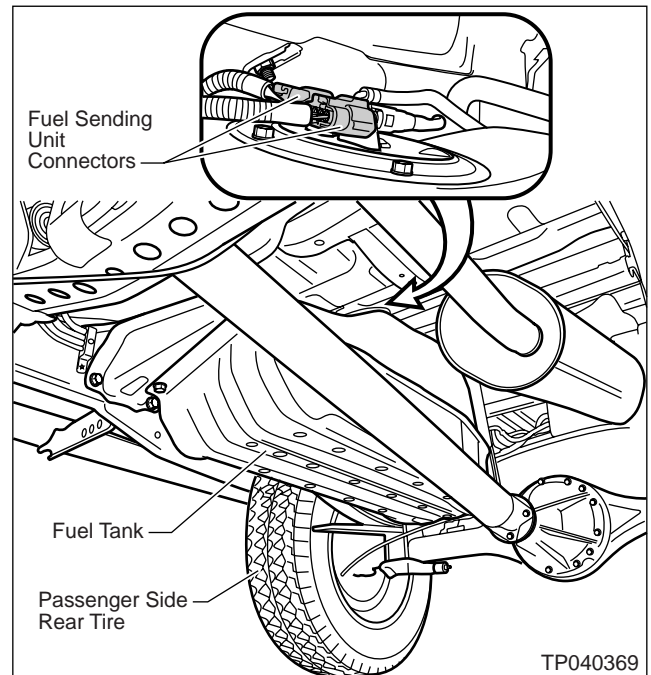

Figure 2
1. Raise the vehicle on a hoist so you can reach the Fuel Sending Unit Connectors (see Figure 2).